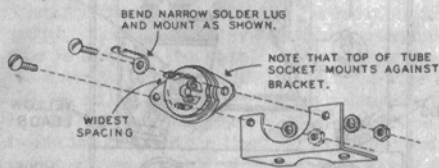

Figure 1
- () Mount the small solder lug and the tube socket on the tube mounting bracket by means of the 3-48 screws, lockwashers and nuts. See Figures 1 and 2. Make certain that the widest spacing between pin holes is as shown in Pictorial 1.
- () Bend the small solder lug as shown in Figure 1.